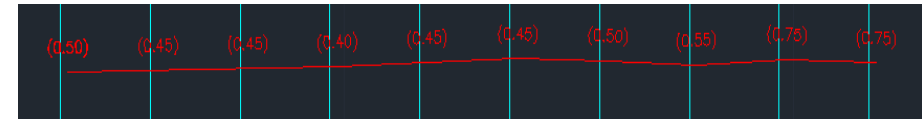

Fig. 130 - Undressed Pipe
10. The **Undress Pipe** command () allows to “undress” the pipes, highlighting the pipe axis. This command allows to reduce the pipe in a poli-line (Fig. 130) and be modified using normal AutoCad tools.